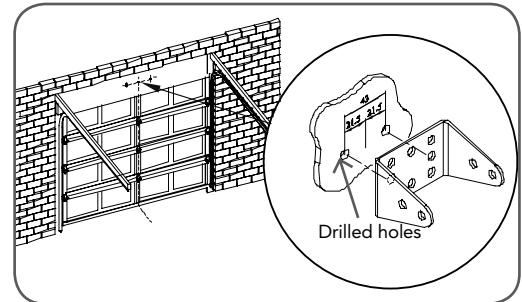

fig 09
- Determine the centre point on the wall above and on top of the door. Draw two lines extending 21.5mm from each side of the centre point. (**Fig. 09**)
- Centre the bracket over the intersection of these two lines. Mark centres for at least two holes (**Fig. 09**).